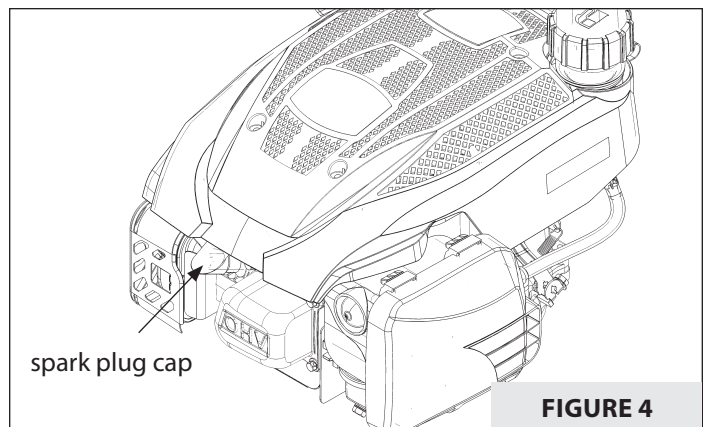

FIGURE 4
1. Detach spark plug wire and move away from spark plug. If the engine uses a battery, disconnect at negative terminal. **SEE FIGURE 4.**
The recommended spark plug is a F5RTC. The spark plug is located to the left of the valve cover. **SEE FIGURE 4.**